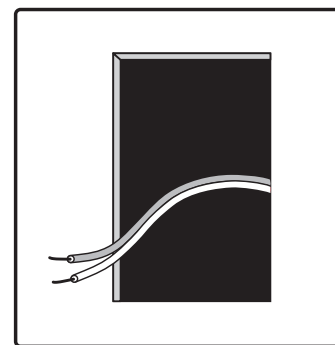

FIGURE 6
- Once you have cut the hole, fish your previously positioned wiring out of the hole and connect the speaker [figure 6]. Follow the hook-up directions included with your receiver.